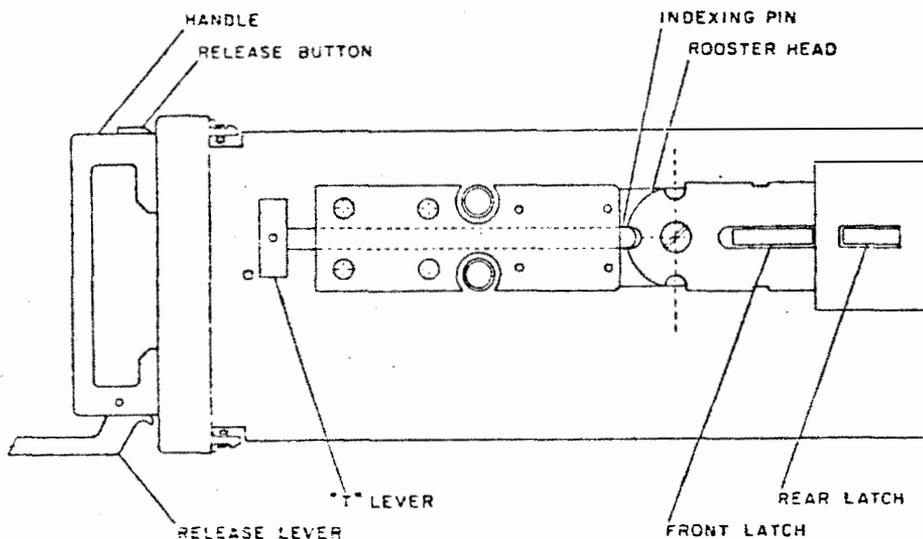

Figure 2-2. Drawer Operating Mechanism
(1) OPENING AND INDEXING THE DRAWER. (See figure 2-2.)
(2) REMOVING AND REPLACING THE DRAWER.